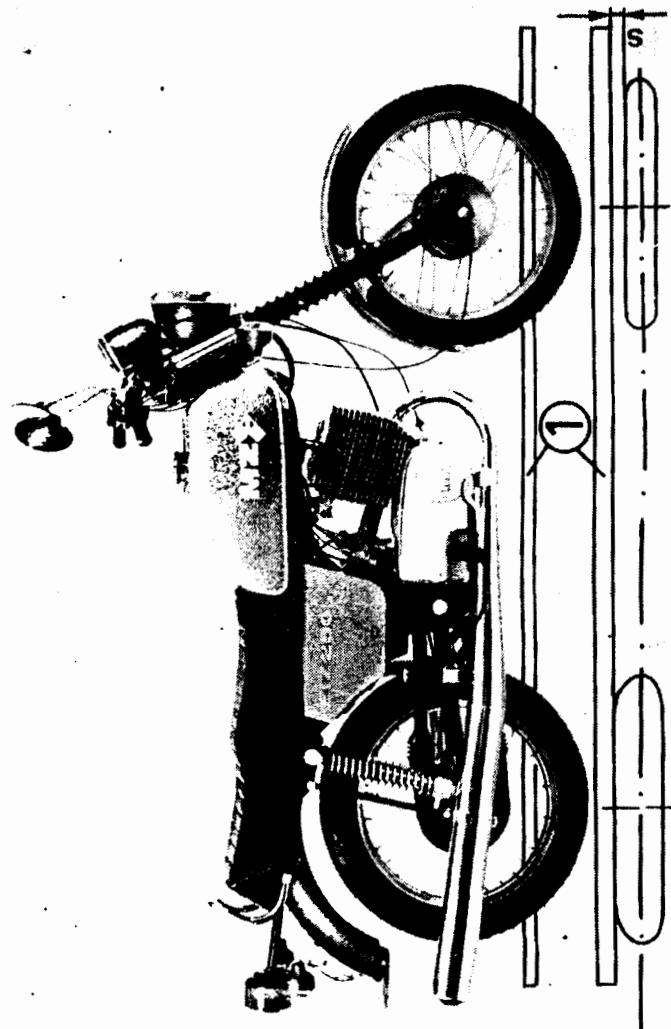

Fig. 32. Aligning the wheels
The knock-out axle (1) and the nut for fastening the rear wheel drive must be loosened. Then uniformly turn the adjusting screw (3) of the two chain tighteners (2) and provide the screw with a check nut after setting. Check the wheel track according to Fig. 32 or by visual inspection from the front. The gap (S) results from the different widths of front and rear wheel.